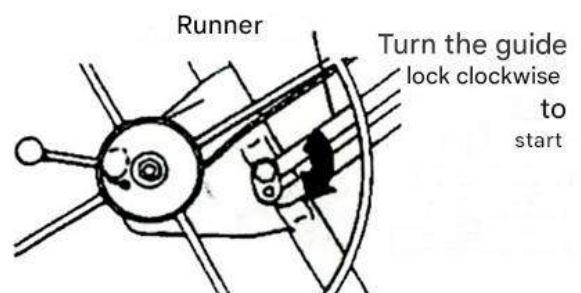

Figure 5
5. Gently tilt the winch back towards the frame. This will automatically cause the guide lock to keep the winch fully pulled out. (Figure 5).